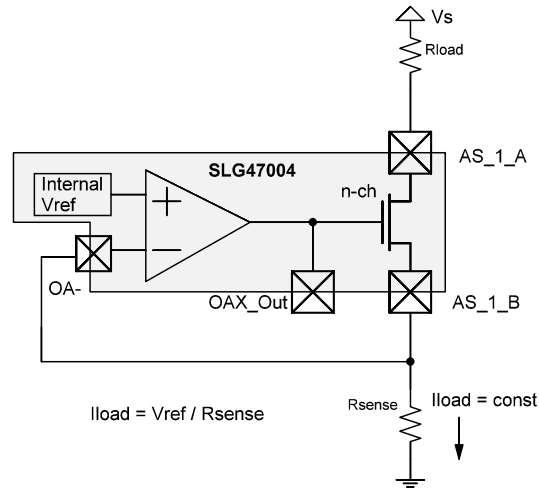

Figure 72: Constant Current Sink
Also, the op amp output can drive the N-FET (part of the Analog Switch) in order to implement a constant current sink. Note that FETs of Analog Switches have different resistances. Analog Switch 0 has $R_{ds_PMOS} \ll R_{ds_NMOS}$, while Analog Switch 1 has $R_{ds_NMOS} \ll R_{ds_PMOS}$. That's why it is recommended to implement current sink mode using Analog Switch 1. In this mode, the op amp output is LOW when the macrocell is turned off. Figure 72 (A) shows a typical implementation of this Current Sink Function. Note that op amp must operate in operational amplifier mode (register 750 = 0 for Op Amp0, register 751 = 0 for Op Amp1).